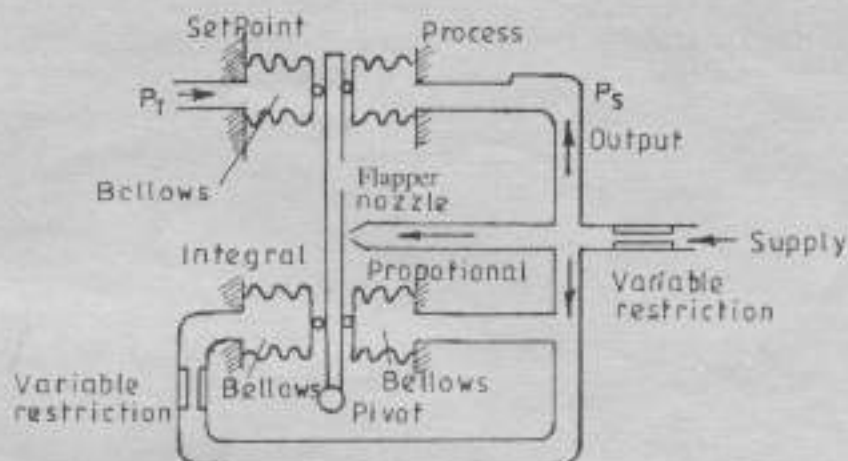

Fig. 2
- (d) Figure 2 shows a PI pneumatic controller. Explain how it operates. (5 marks)